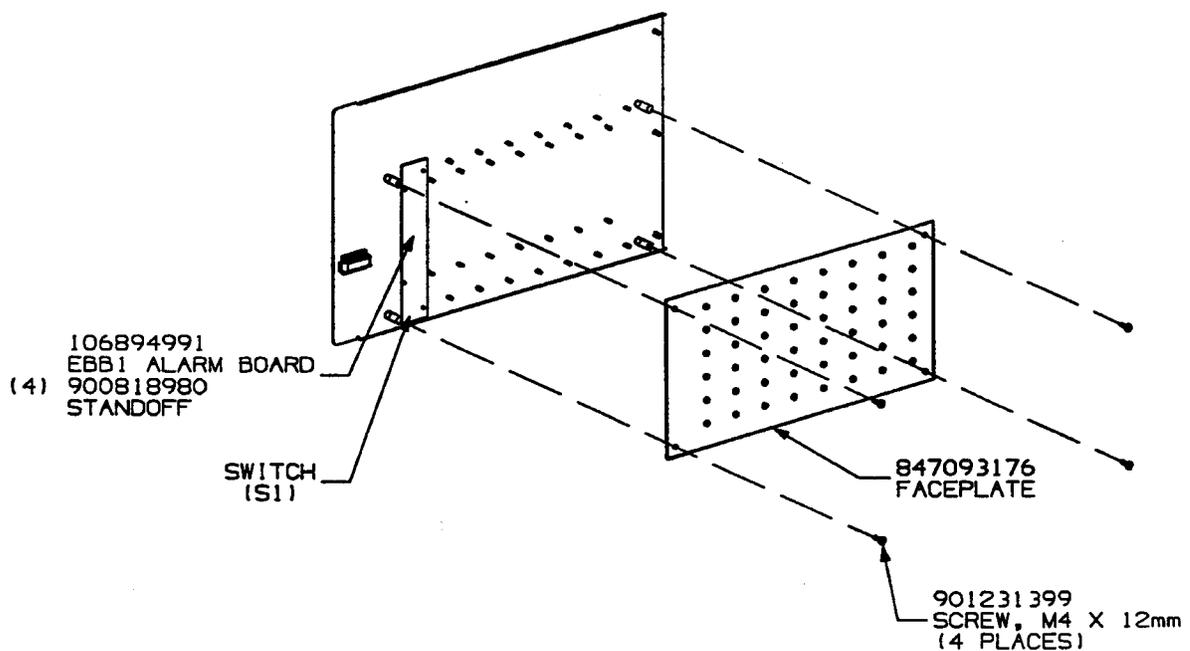

Figure 5-7: Installing EBB1 Alarm Module
6. Secure four nylon standoffs to hinged door starting on the left side. See Figure 5-7.